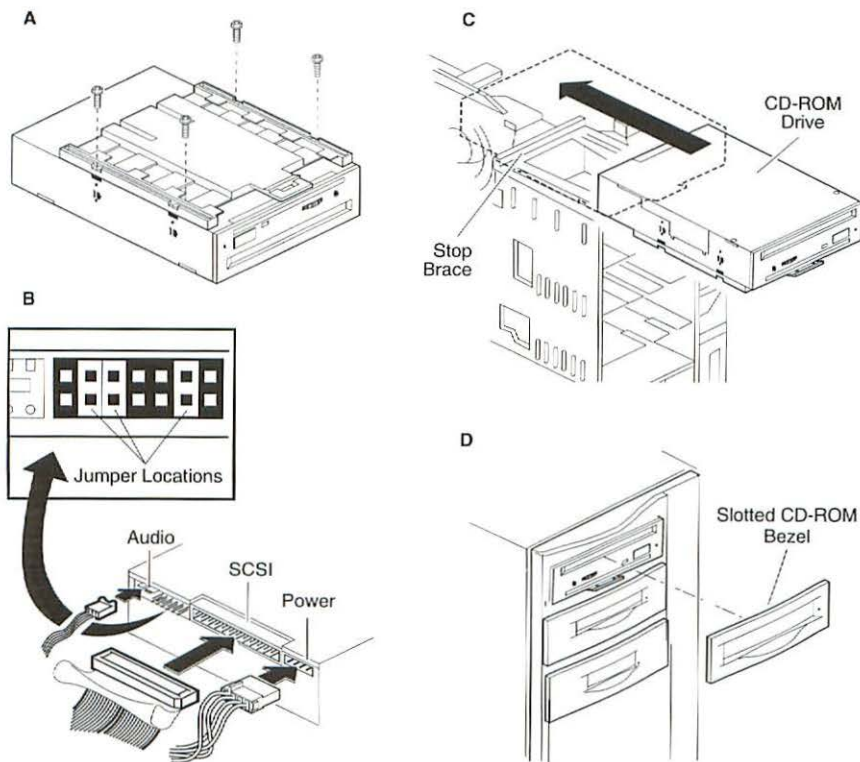

Figure 2 CD-ROM Drive Upgrade
3. Attach the CD-ROM carrier to the CD-ROM drive with four Phillips screws (Figure 2-A).
4. Verify the two jumper connectors are installed as shown in Figure 2-B.
5. Slide in the CD-ROM drive and carrier (Figure 2-C).
6. Connect these cables to the CD-ROM drive (Figure 2-B):
7. Install the slotted CD-ROM drive bezel in the top cover (Figure 2-D).